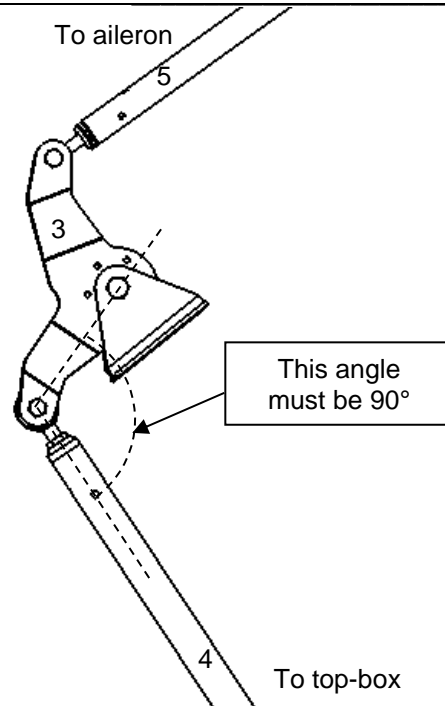

Figure 15: Aileron adjustment - wing side.
6. Test the stops (2) so that when moving the sticks left, the stops for the stick on the left touch and when moving the sticks right the stops for the stick on the right touch.
7. Tighten the lock-nuts on both ends of the joining pushrod (1) without turning the pushrod.
8. Loosen the lock-nuts on the long in-wing pushrod (4). Hold both sticks completely vertical and line up the bell crank (3) by turning the main long in-wing pushrod (4) in or out until the bell crank is exactly 90° to the pushrod (4). Refer to Figure 15.